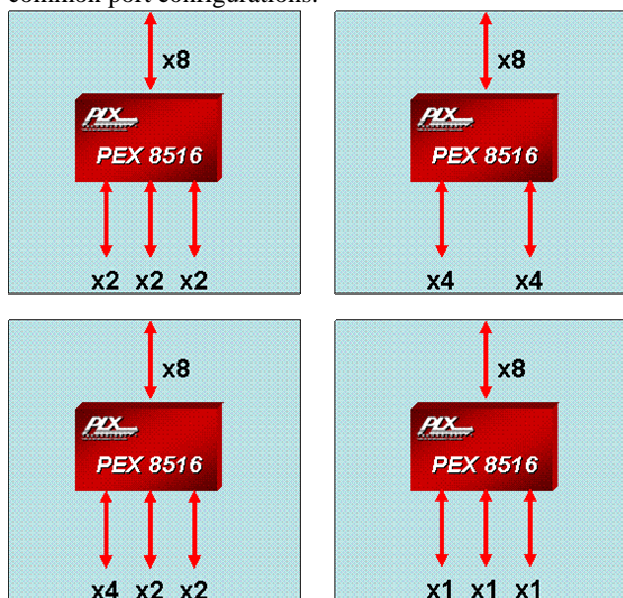

Figure 1. Common Port Configurations
The PEX 8516 supports a large number of port configurations. For example, if you are using the PEX 8516 in a fan-out application, you may configure the upstream port as x8 and the downstream ports as three x2 ports; two x2 & one x4 ports; three x1 ports; or other combinations, as long as you don't run out of lanes (16) or ports (4). In a port aggregation application you can configure three x2 or x1 ports for aggregation into one x8 or x4 port. Figure 1 shows the most common port configurations.